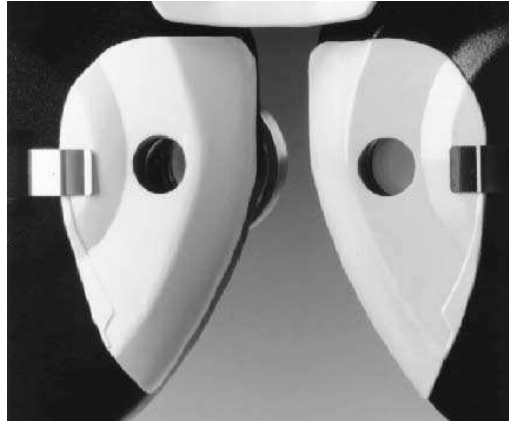

Figure SU-2 Face Shields
1. Each Face Shield is held in place by a Spring Clip. Attach by sliding the edge of the Face Shield under the clip matching the position of the shield aperture to the main aperture of the Phoroceptor. Refer to Figure SU-2.